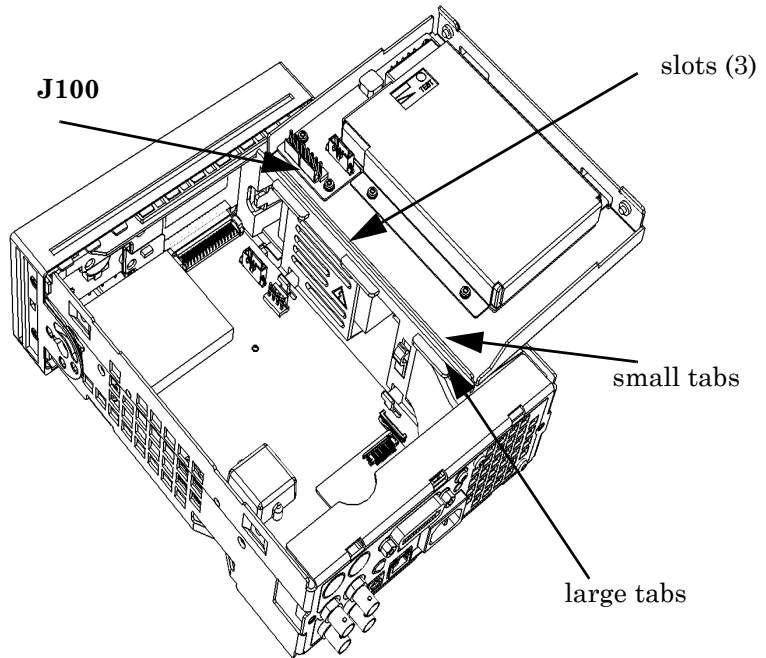

Figure 2-12. Battery folded in the service position
- Lift up carefully on the two side-overlapping tabs on the left side of the battery assembly and separate the assembly from the three large tabs holding it on the right side. Lay the assembly on its back to the right side of the chassis and place the three small tabs (on the back side of the three large tabs) into the three slots on the assembly deck. (See Figure 2-12.)